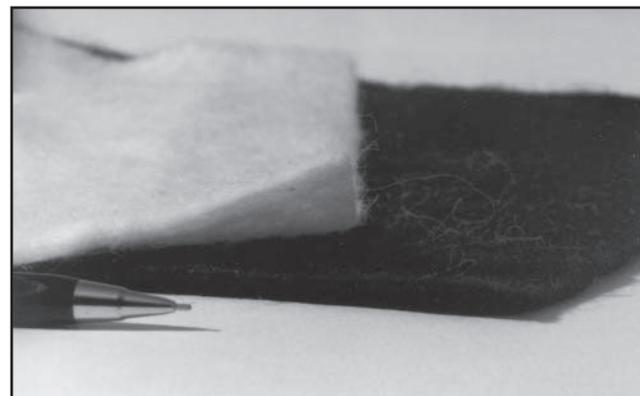

Figure 33—Felt-like geotextiles are easier to work with than heat-bonded, slit-film, or woven products that have a slick texture.
**Geotextiles** (Figure 33) are the most widely used geosynthetic material. Sometimes they are called construction fabrics. They are made from long-lasting synthetic fibers bonded to form a fabric.